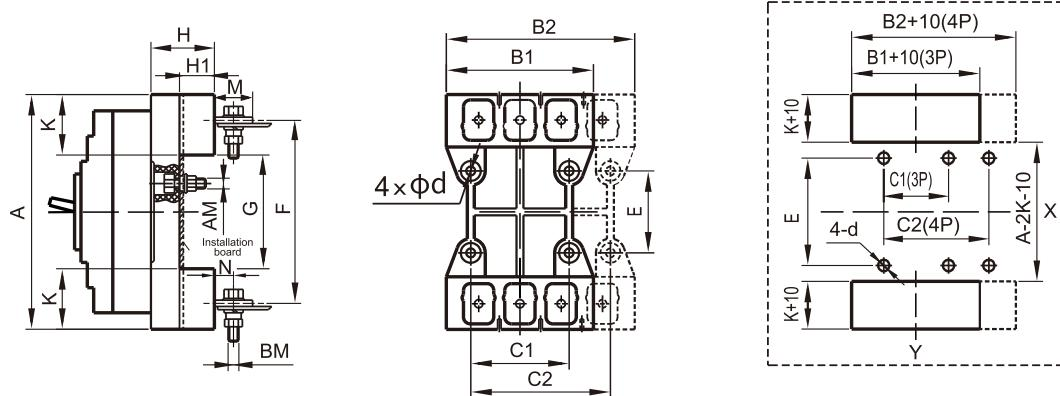
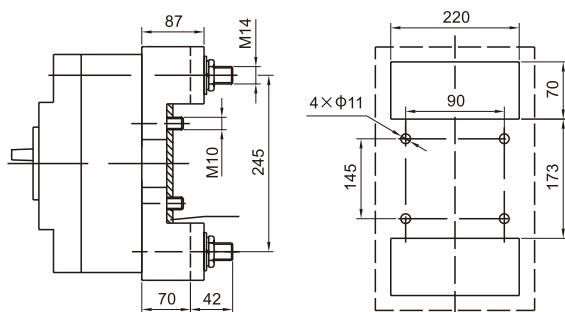

Fig 10 RDM1 Plug-in type overall and installation hole-opening diagram
Fig 11 RDM1-800 3P Plug-in type overall and installation open hole diagram
6.4 RDM1 Plug-in type overall and installation hole-opening dimension, see Fig 10, Fig 11 and Table 11